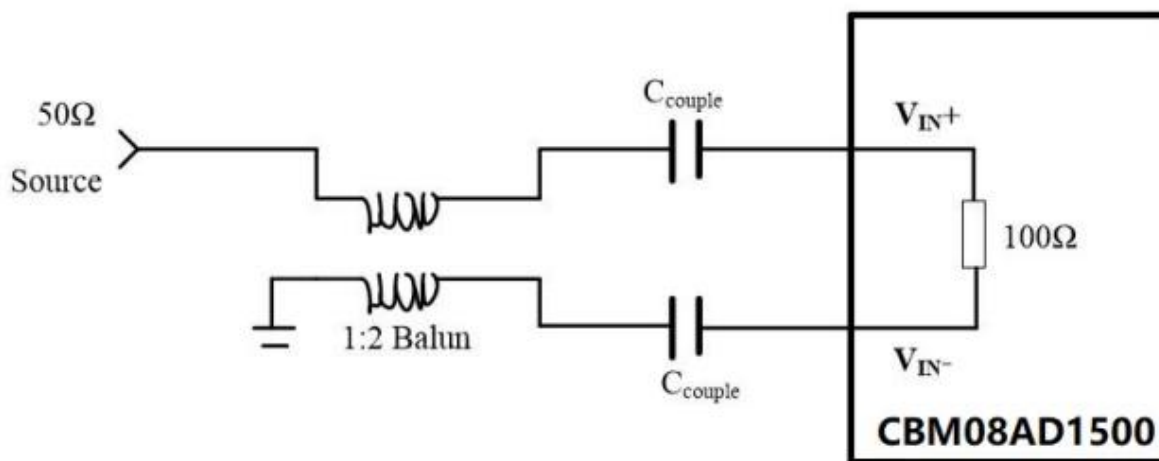

Figure 11. Single end to differential signal conversion
a. Single ended input signal processing:: Because there is no circuit for single ended signal processing in the CBM08AD1500, it does not provide single ended input signal processing. The best way to process single ended signal is to convert the signal into differential signal before input to ADC. The easiest way to convert single ended signal into differential signal is to use an appropriate transformer with unbalanced connection, as shown in Figure 11.
The easiest way to convert a single ended AC input to a differential AC input is to use an appropriately unbalanced connected transformer, as shown in Figure 11. Figure 11 is a diagram of transforming single ended signal into differential signal by transformer. The characteristics of the transformer depend on the selection of the transformer type and the layout of the entire